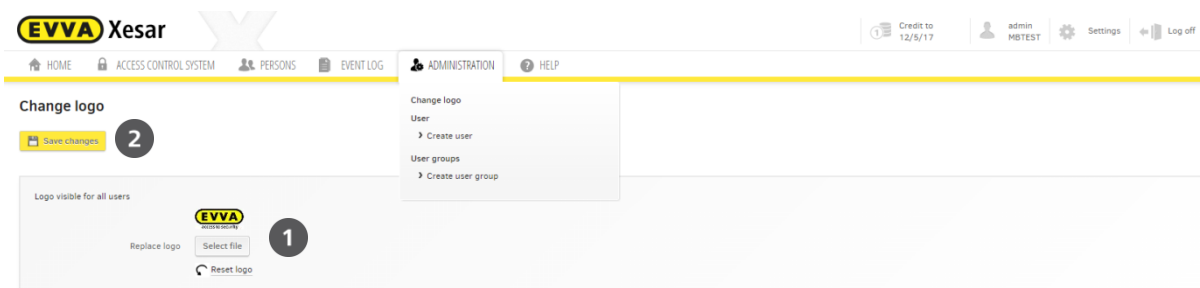

Figure 56: Changing the client logo
- **Select file ❶** (Figure 56: Changing the )
- Click **Save changes ❷** (Figure 56: Changing the )